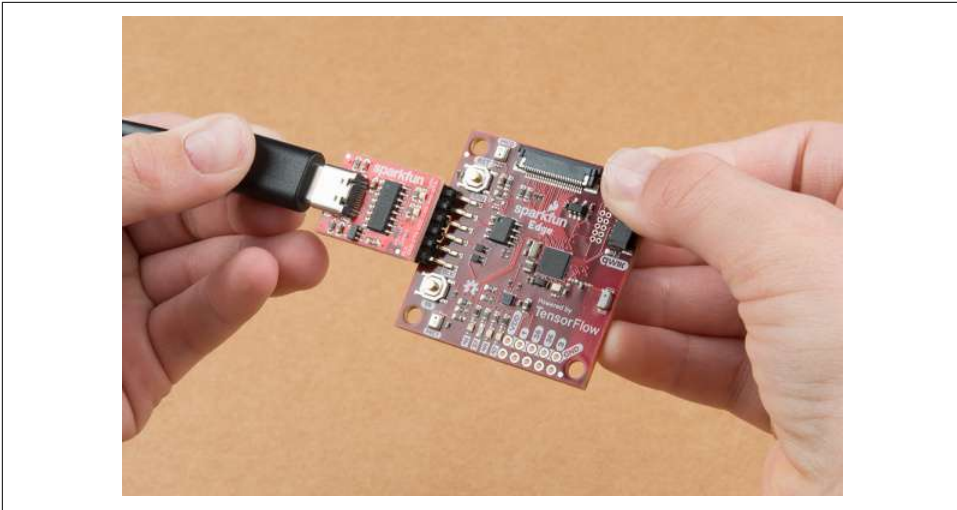

Figure 7-14. Connecting the SparkFun Edge and USB-C Serial Basic (courtesy of SparkFun)
2. Plug the SparkFun USB-C Serial Basic into these pins, ensuring the pins labeled BLK and GRN on each device are lined up correctly, as illustrated in Figure 7-14.